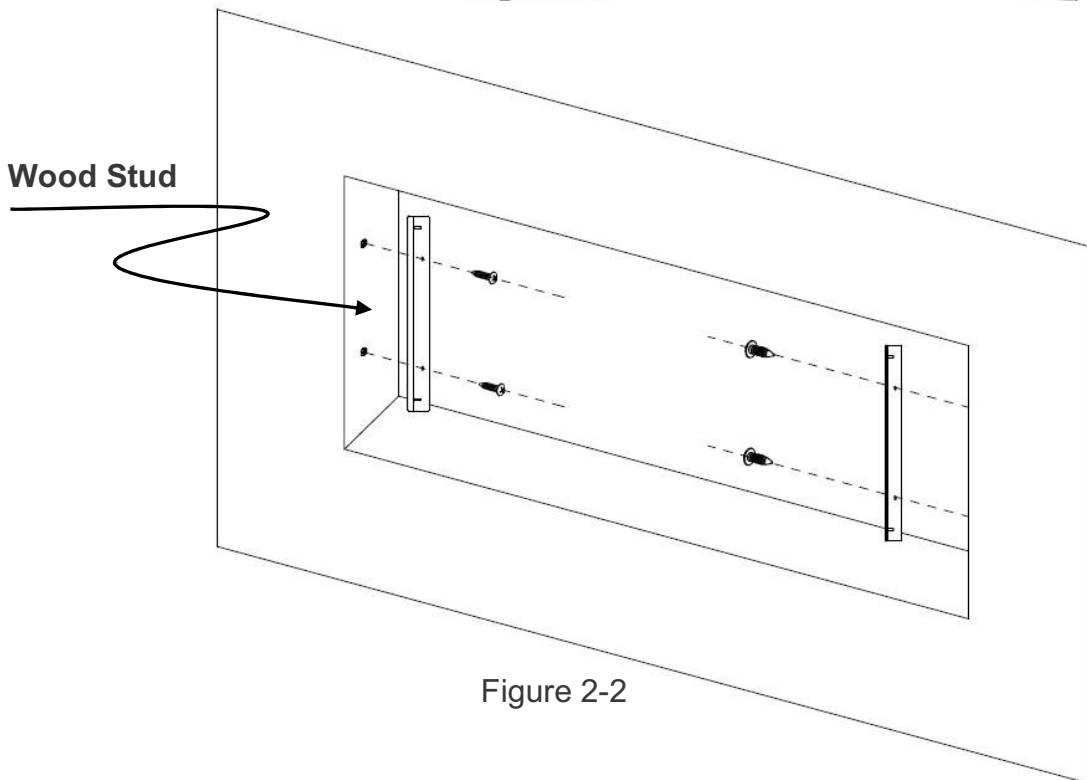

Figure 2-2
- C. Fix the two metal brackets (N) (1per side), with 4 screws (B) (supplied) through wood stud. **(Figure 2-2)**